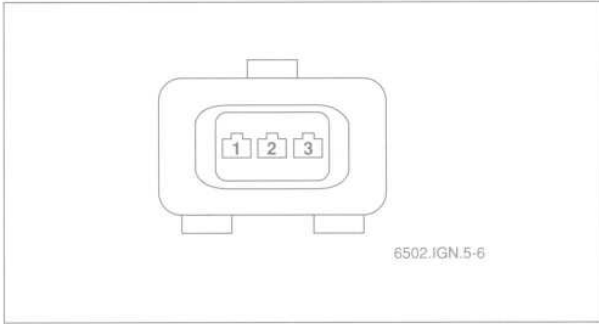

Fig. 8. Crankshaft position/rpm sensor connector (arrow).
2. Using an ohmmeter, check the resistance between the terminals 1 and 2 in the sensor end of the connector. See Fig. 8.